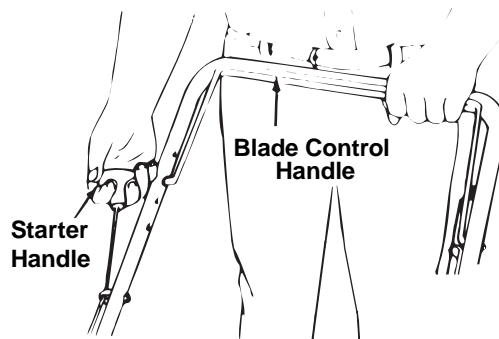

Figure 7
- Standing behind the unit, depress the blade control handle and hold it against the upper handle as shown in Figure 7.